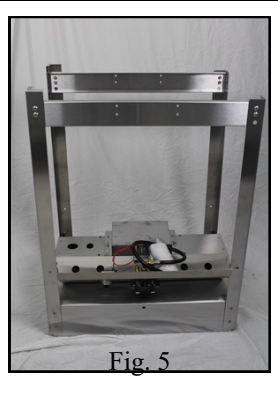

Fig. 5
4. Flip grill upside down and attach the lower frame brackets to the front and back of the grill with (4) 1/4-20x1/2" with Hex Head Bolts for each bracket as shown in (Fig. 5) with (4) 1/2-20 Kep nuts.